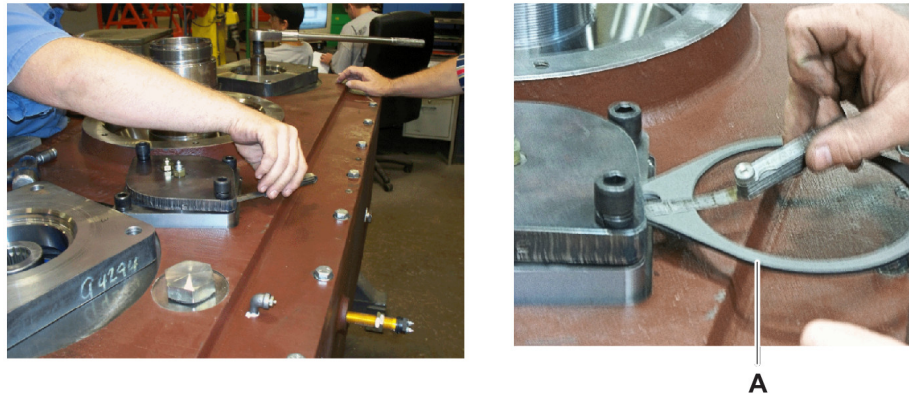

Figure 2
6. Install correct shim sets (Figure 2, item A) over the corresponding bearing adjuster and slip the O-rings into grooves on the bearing adjusters.